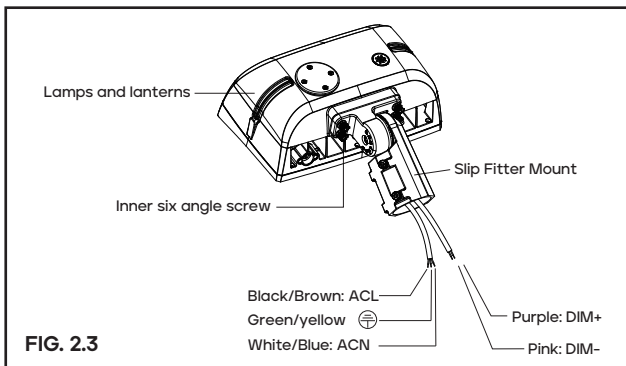

FIG. 2.3
Step 2: Finish the wire connection according to the right mode of connection (pay attention to positive wire, negative wire, and ground wire), and then put wire into lamp pole; (figure 2.3)